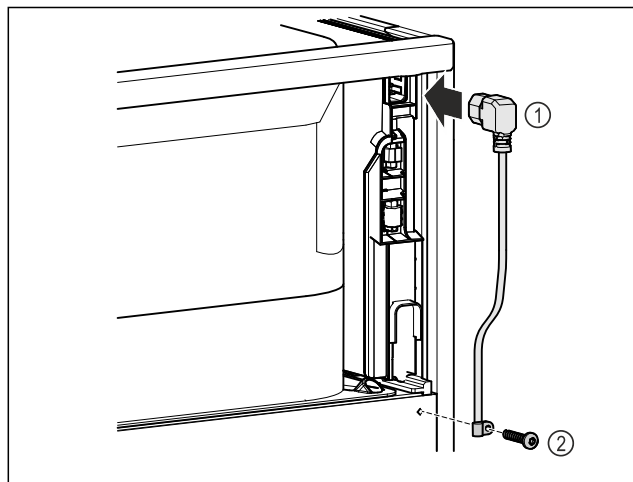

Fig. 7
- IEC socket of the power cable Fig. 7 (1) on the rear side of the appliance.
- Install mains tension relief. Fig. 7 (2)